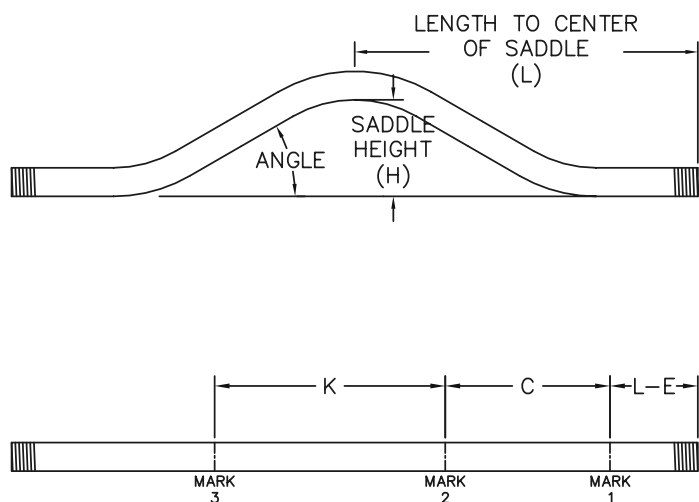

FIGURE 19A
1. Determine the length to the center of the saddle (L), saddle height (H) and angle for the saddle (See Figure 19A)
3. Using the desired angle, locate the “E” value that corresponds to the desired height (H). Deduct this value from the length (L) and make a mark this distance from the end of the conduit. This is your first bending mark (Mark 1).
5. Lastly, locate the “K” value that corresponds to the desired height (H). Make a mark the distance “K” from Mark 2. This is your third bending mark (Mark 3).